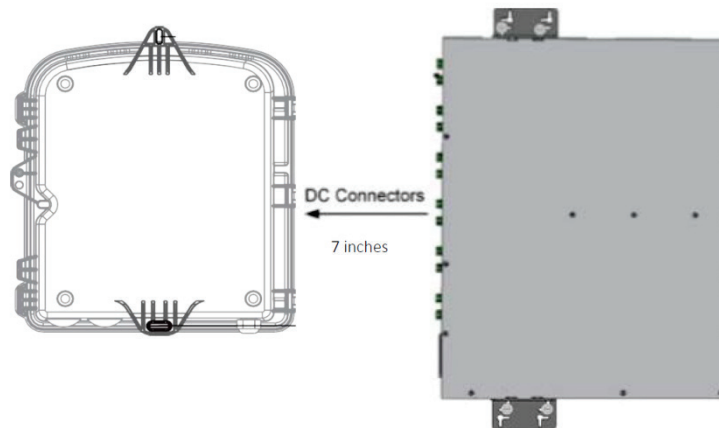

Figure 4 Housing and PSU6 Wall Mounting
**Step 3** Using the wall-mount bracket keyholes as a guide, mark the holes to be drilled on the wall. Mount the PSU 7 inches horizontally from the Wall Mount Splitter Housing. See Figure 4